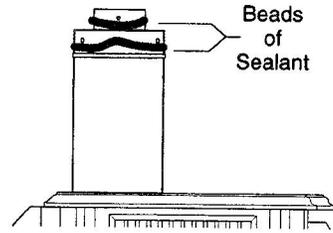

Figure 34. Drill and seal the pipe ends.
5. Seal and install first the inner and then the outer straight pipe section(s), trimmed end down, to the point of the elbow. Drill 3 holes through each joint and secure with 1/4-20 sheet metal screws. Fig. 34.